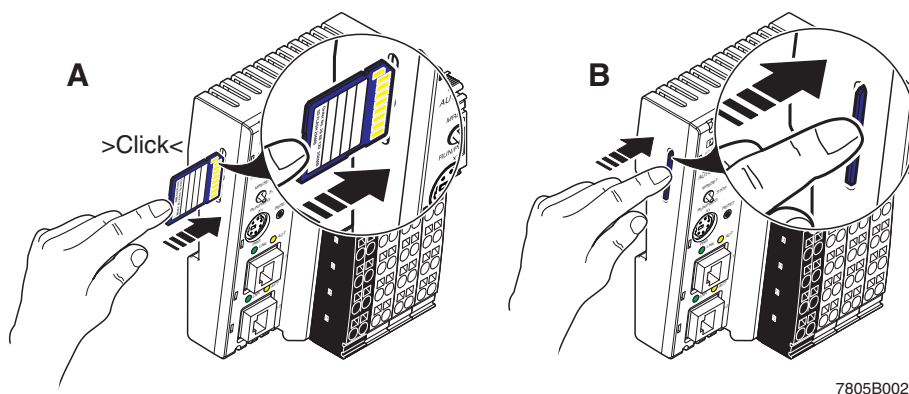

Figure 2-10 Inserting (A) and removing (B) the parameterization memory
- Insert the parameterization memory (SD card) into the slot as shown in Figure 2-10 (A).
- Gently push the parameterization memory into the slot in the direction shown in Figure 2-10 (B) until the snap-on mechanism releases the parameterization memory and partially ejects it from the slot. Remove the parameterization memory.